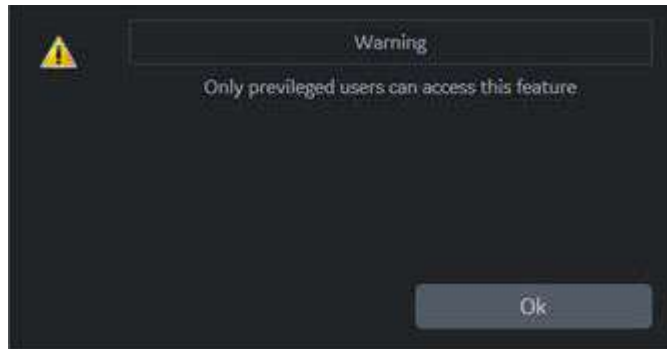

Figure 13-269. Advanced Configuration Group Rights Warning
**NOTE:** *The user must have Configuration Group Rights to begin the configuration download and installation. If the user does not have Configuration Group Rights, a Warning message is displayed (see Figure 13-269).*